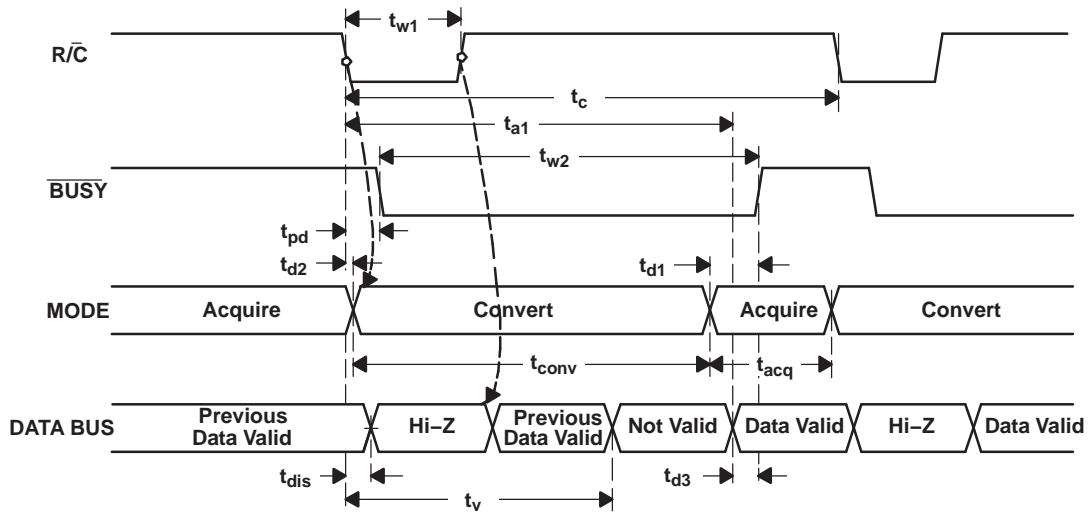
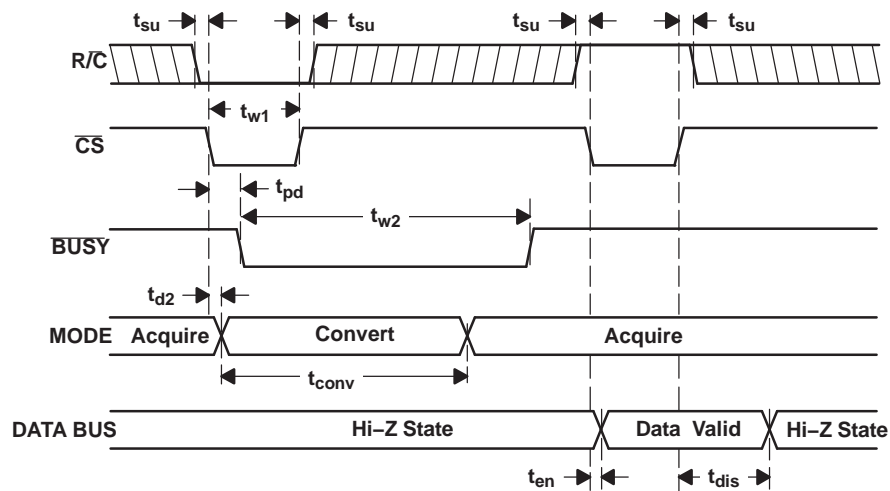
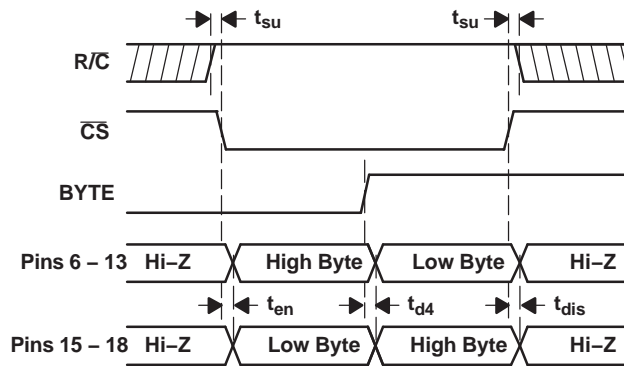

Figure 19. Conversion Timing with Outputs Enabled after Conversion (\overline{CS} Tied Low)
Figure 20. Using \overline{CS} to Control Conversion and Read Timing
Figure 21. Using \overline{CS} and \overline{BYTE} to Control Data Bus
The ADS8504 begins tracking the input signal at the end of the conversion. Allowing 4 μ s between convert commands assures accurate acquisition of a new signal. Refer to Table 1 for a summary of \overline{CS} , $\overline{R/C}$, and \overline{BUSY} states and Figure 19, Figure 20, and Figure 21 for the timing diagrams.
(1) See Figure 19 and Figure 20 for constraints on data valid from conversion $n-1$.
After conversion n is completed and the output registers have been updated, $\overline{\text{BUSY}}$ (pin 26) goes high. Valid data from conversion n is available on D11-D0 (pins 6-13 and 15-18). $\overline{\text{BUSY}}$ going high can be used to latch the data. Refer to Table 3 and Figure 19, Figure 20, and Figure 21 for timing specifications.
After conversion n has been initiated, valid data from conversion $n-1$ can be read and is valid up to t_2 (2.2 μs typ) after the start of conversion n . Do not attempt to read data from t_2 (2.2 μs typ) after the start of conversion n until $\overline{\text{BUSY}}$ (pin 26) goes high; this may result in reading invalid data. Refer to Table 3 and Figure 19, Figure 20, and Figure 21 for timing specifications.
The number of control lines can be reduced by tying $\overline{\text{CS}}$ low while using the falling edge of $\text{R}/\overline{\text{C}}$ to initiate conversions and the rising edge of $\text{R}/\overline{\text{C}}$ to activate the output mode of the converter. See Figure 19.